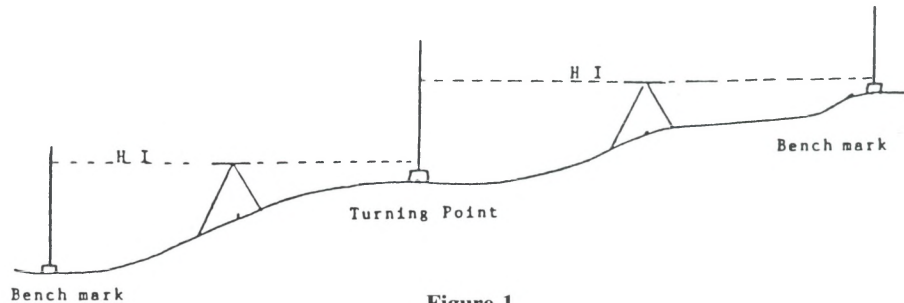

Figure 1
Referring to Figure 1, the leveling instrument is positioned so that a rod held on a position of known elevation (bench mark) can be read with ease. The eyepiece on the telescope magnifies the viewed image, and the readable distance from the level to the rod depends on the eyepiece magnification. Generally speaking, the maximum readable distance is less than 300 feet. The surveyor observes the rod reading where the horizontal crosshair intersects the rod, and this rod reading is recorded in the field book. The rod reading, called a backsight, is added to the elevation of the bench mark to get the height of instrument (HI). This HI is the elevation of the horizontal plane that contains the horizontal crosshair in the level. The rod on the bench mark is now moved along the level route and positioned at a distance from the level approximately equal to the distance of the level from the starting bench mark. This ground point is called a turning point (TP). The TP can be a rigid natural object or a special baseplate used specifically for this purpose. The rod is positioned on the TP and the surveyor observes the rod reading where the horizontal crosshair intersects the rod. The rod reading, called a foresight, is subtracted from the HI to determine the elevation of the TP. The rod remains on the TP, the level is moved